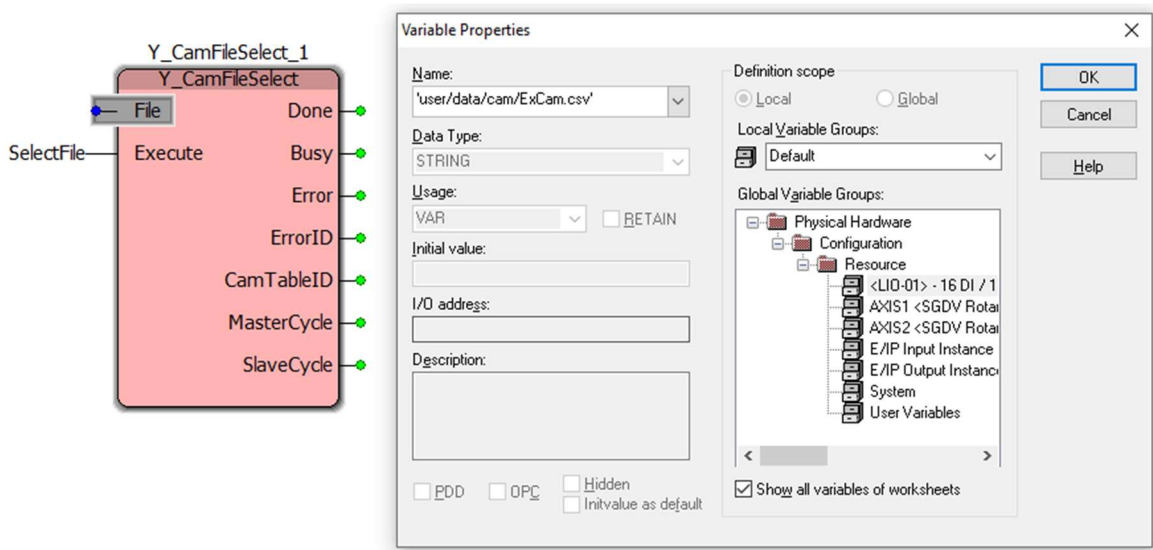

Figure 20: File Variable Properties
- Click on the File Input and enter the address from the last step as a name, shown in Figure 20